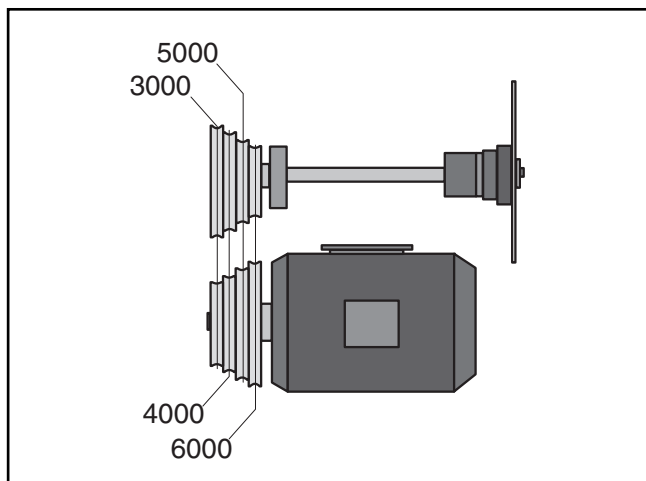

Figure 62. Belt speed diagram.
4. Position the V-belt in one of the pulley locations illustrated in **Figure 62**, depending on your desired blade speed.